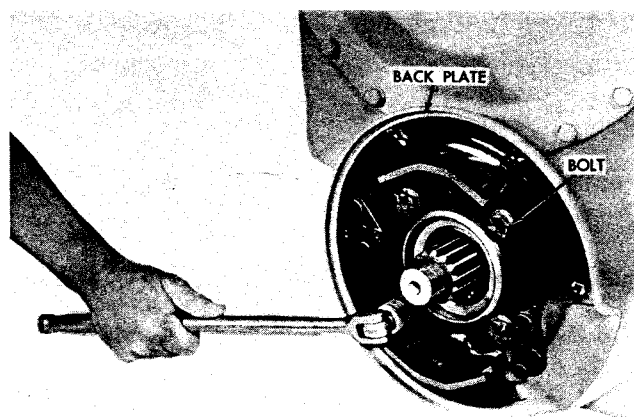

Fig. V-6. Removing (or installing) brake back plate
(2) Remove four bolts and brake back plate (fig. V-6).